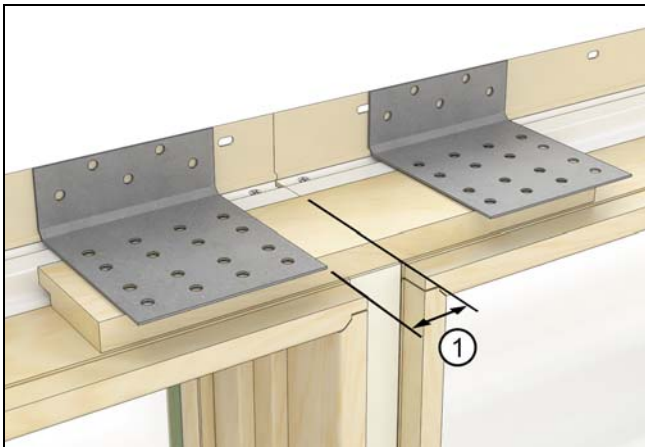

Figure 1
1. Place mull clips 1 1/2" (38) on either side of each mull point. See Figure 1.